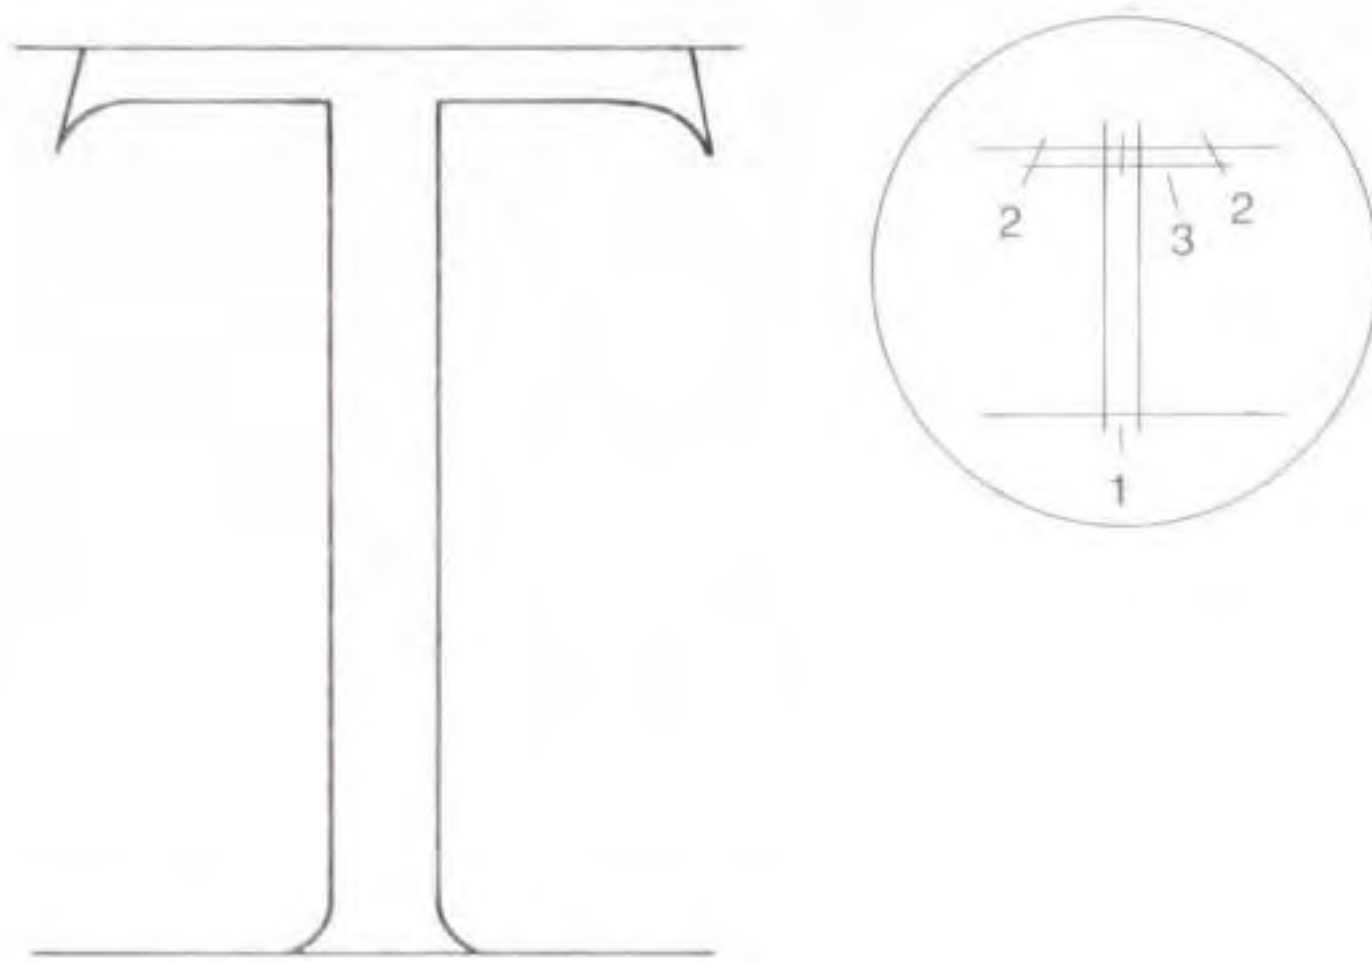

Fig 5.35 T: construction.
- 1 Refer to Fig 5.35. Cut the vertical trench first using the 40mm (1⁵/₈in) chisel. This time the gap at the top is for the crossbar rather than a serif.